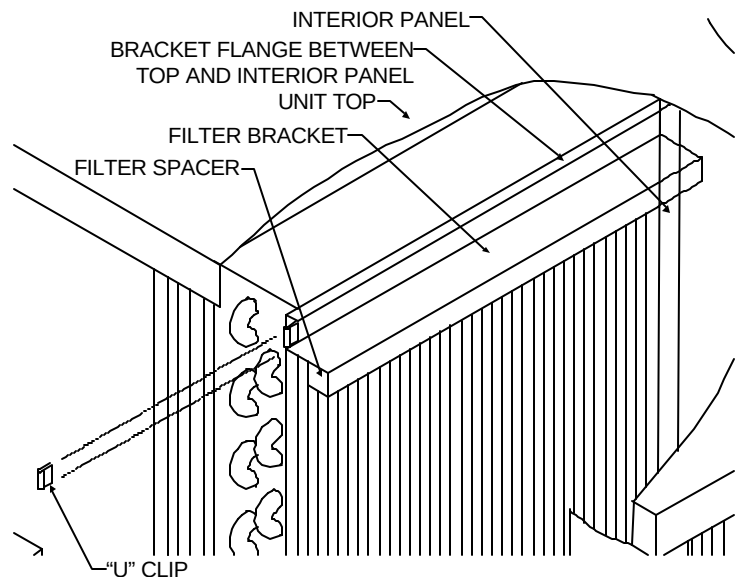

Figure 2
Install top filter bracket by (1) inserting the top filter bracket top flange between the unit top and the interior panel. Push the "U" clip on the bracket and the coil as shown in Figure 2. For 2 inch filter remove filter spacer.